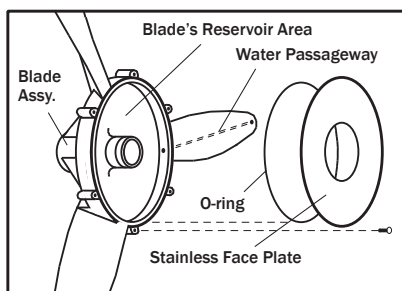

Fig. 5
**Cleaning Blade Assembly:** After removing the blade assembly, remove the stainless plate and O-ring. Soak the blades in CLR for about one hour, scrub clean and rinse off with water. Carefully check the small holes leading into passageways that extend the length of each blade. **See Fig. 5** When clean, test by blowing air through each blade.